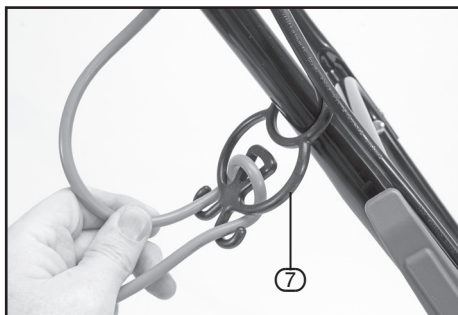

FIG. 5
**8.5 Wind Power Cable Into Restraint - Fig.5**